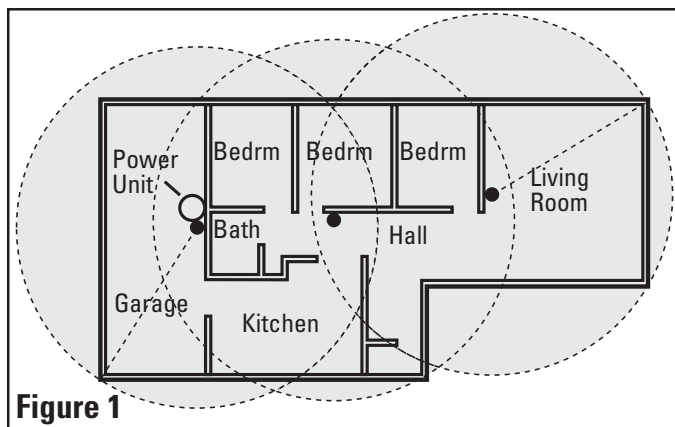

Figure 1
- Using a 30 foot piece of string or the hose itself, have one person hold one end to the planned inlet location and have the second person walk around the room(s) to determine if more inlets are needed. Continue this exercise until you can reach every area of the home (**Figure 1**).